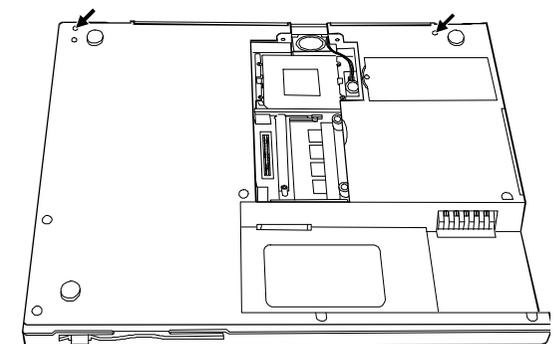

Figure 5-35. Removing two bottom screws.
13. Unplug the floppy disk drive cable connector from the system board. (Refer to Figure 5-35.)